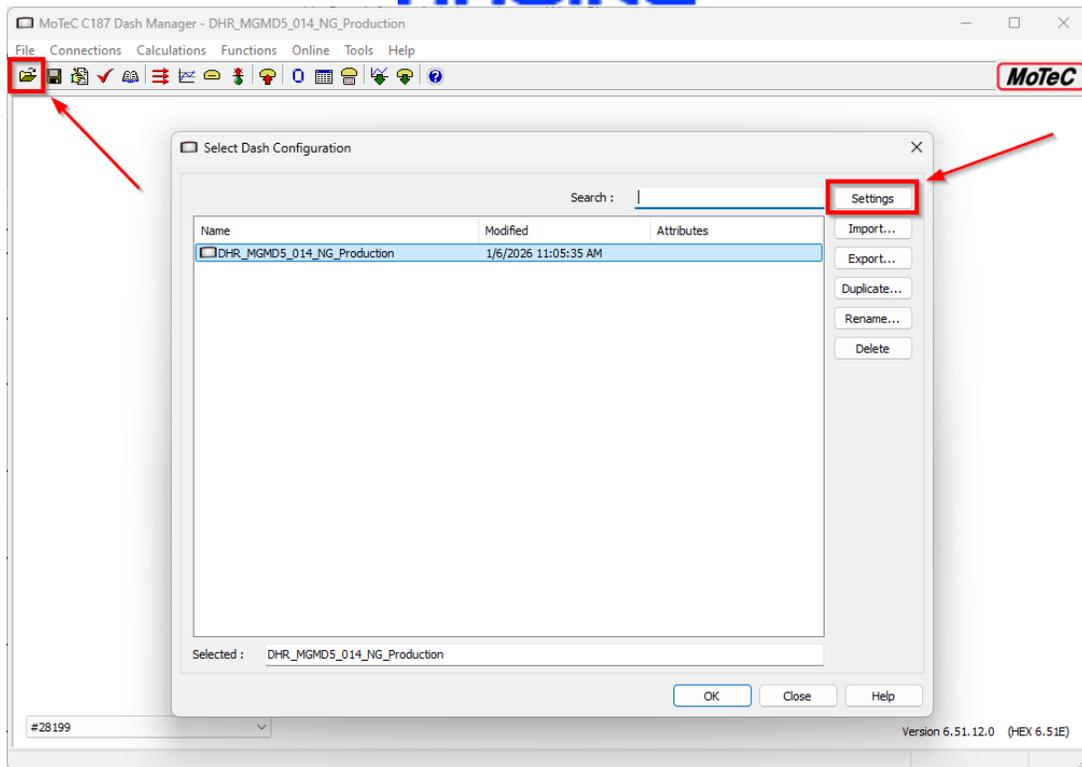

Figure 2: Motec Dash Manager – loading the configuration.
4. Next, open the dash configuration file you downloaded from the competitor site labeled "DHR_MGMD5_014_NG_Production" by selecting the folder icon shown in Figure 2 in the top left corner.